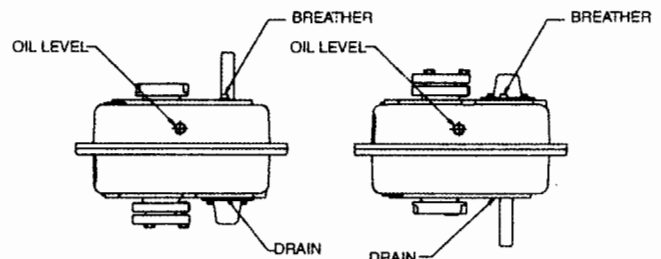

FIGURE 3-2
- 3.2.1 Figure 3-2 shows the breather, magnetic drain and oil level plug locations for the two vertical shaft mounting positions. The breather is installed in the fill hole in the top and the magnetic drain plug is installed in the bottom of the reducer in its relative positions.